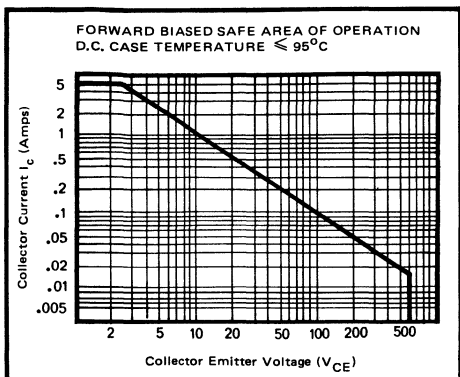
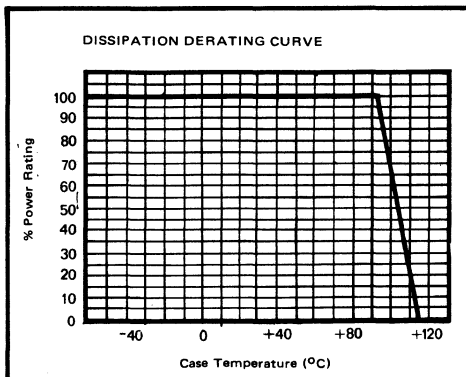

FIG. 3.
FIG. 4.
2. Refer to Figs. 3, 4.
The graph on figure 3 is for a case temperature held at  $95^{\circ}\text{C}$ .
For operation at case temperatures above  $95^{\circ}\text{C}$  derate the value of current indicated in figure 3 by the power derating factor, determined from figure 4.